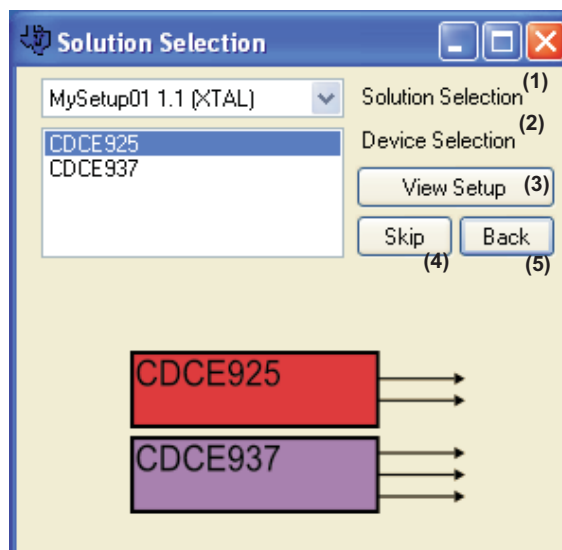

Figure 7. TI ClockPro™ Solution Selection Window
7. **Generate Setup** button recommends devices that generate out of fin the four conditions introduced by the user. The solutions are listed in the window (Figure 7)
Wizard Window, it directs to the Solution Selection Window (Figure 7).